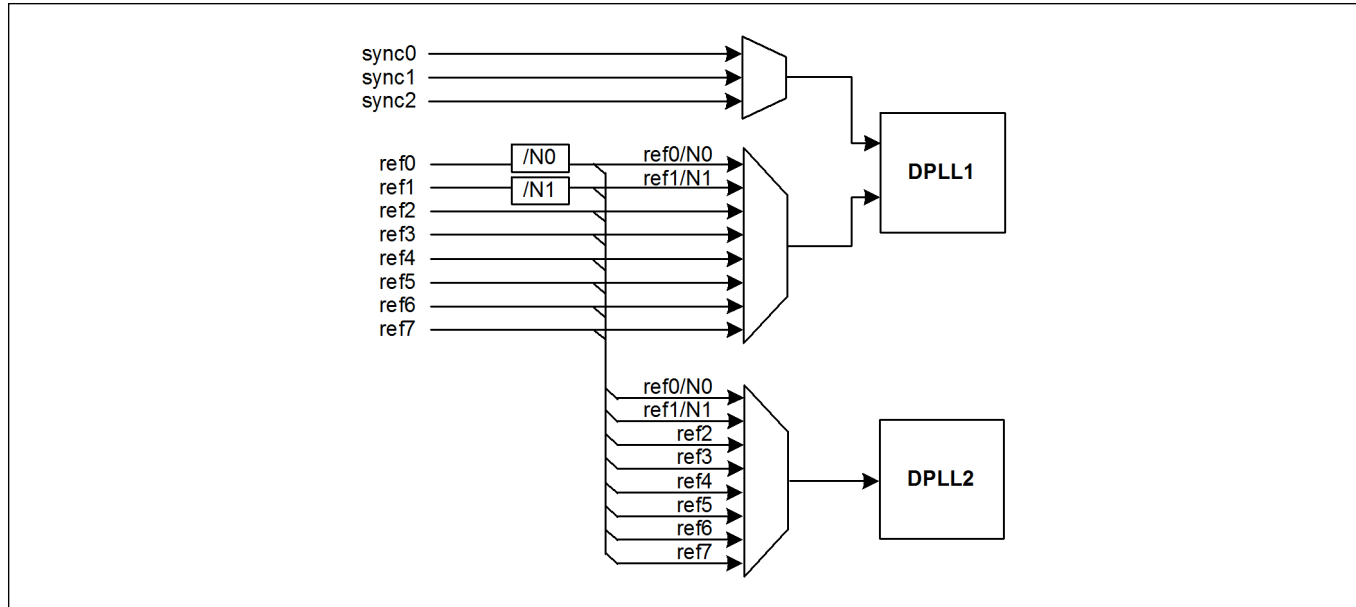
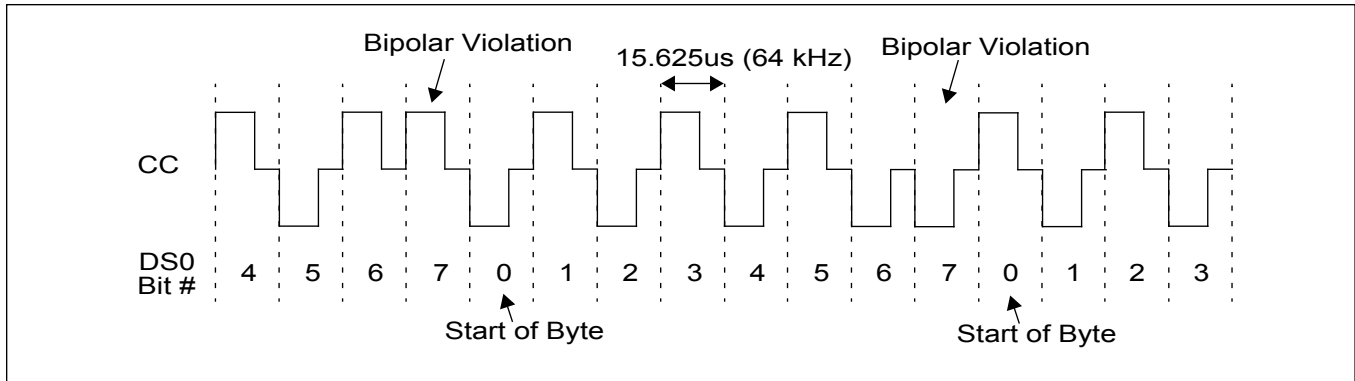
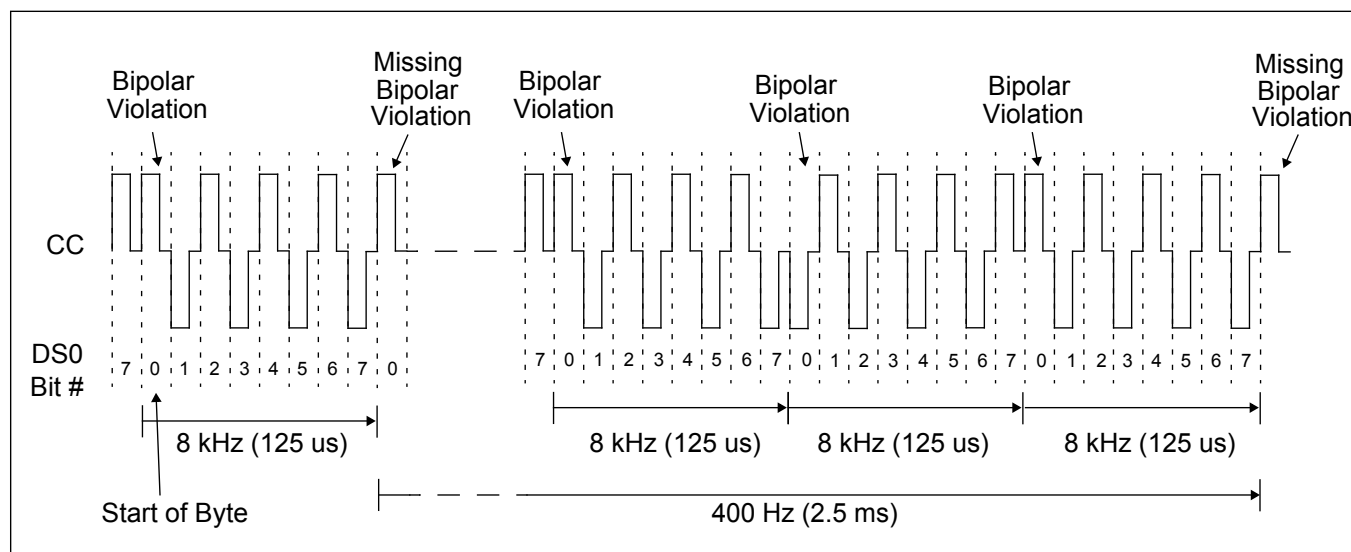

Figure 5 - Reference and Sync Inputs
Figure 7 - GR-378/G.703 Composite Clock Format
Figure 9 - G.703 Japanese Composite Clock (Appendix II)
The composite clock (CC) is a timing signal that provides both phase (bit/byte alignment) and frequency synchronization for SONET/SDH network elements. The CC signal is a 64 kHz, 5/8 duty cycle, return-to-zero, bipolar signal with bipolar violation (BPV) every 8th bit. The format of the CC signal is shown in Figure 7. Bit synchronization is achieved on the trailing edge of the 64 kHz CC signal, byte synchronization is indicated on the occurrence of the 8 kHz BPV. Specifications for the CC signal are covered in Telcordia GR-378 and ITU-T G.703.
Another form of the CC signal (mainly used in Japan) is shown in Figure 9. Its format is similar to the CC shown in Figure 7 with the exception that the byte alignment is marked during the occurrence of the 8 kHz BPV instead of the bit after the BPV. It also provides for optional multi-frame synchronization by violating the 8 kHz bipolar violation at a 400 Hz rate. The specification for this CC signal is covered in ITU-T G.703 Appendix II.
The main difference between the CC signal in Figure 7 and in Figure 9 is in the definition of byte alignment with respect to the 8 kHz BPV. Start of byte alignment in the CC signal of figure 5 occurs after the 8 kHz BPV, whereas start of byte alignment in figure 7 occurs during the 8 kHz BPV. The frame pulse outputs can be made to align with either of these CC signal formats using the *ref0_cc_fp_mode* and *ref1_cc_fp_mode* bits in the *cc_ref0_ctrl* (0x7B) and *cc_ref1_ctrl* (0x7C) registers.
The CC signal shown in Figure 9 has an additional 400 Hz frame indicator. It is indicated by a missing BPV every 2.5 ms. The frame pulse outputs can be made to align to the missing BPV by modifying the *ref0_cc_fp_sel* and *ref1_cc_fp_sel* bits of the *cc_ref0_ctrl* (0x7B) and *cc_ref1_ctrl* (0x7C) registers.